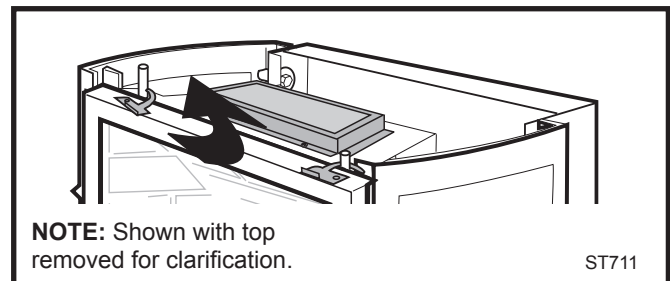

Fig. 14 Rotate cams into place to hold glass frame assembly in place.
8. Install glass frame assembly by resting the bottom edge of the frame on support brackets below the front opening of the firebox. Rotate the top edge of the assembly toward the firebox, and center it. Fasten by “rotating” the cams over the top left and right edges of the frame. (Fig. 14)